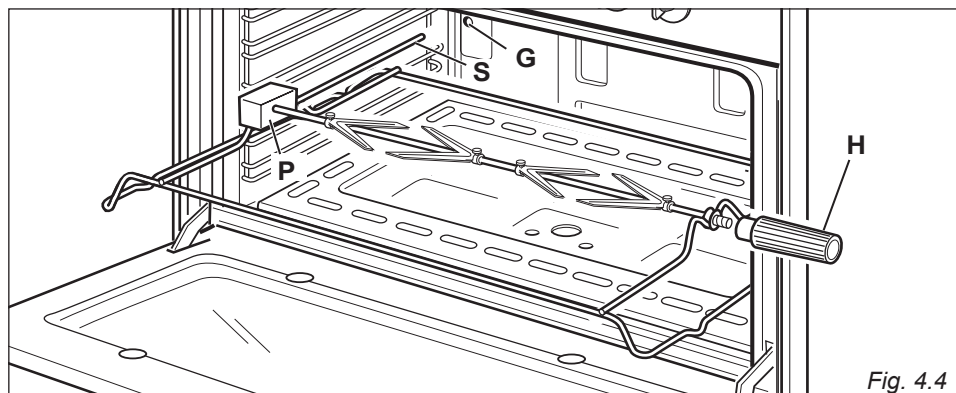

Fig. 4.4
- Insert the rod into the side gear opening "P" (fig. 4.4)